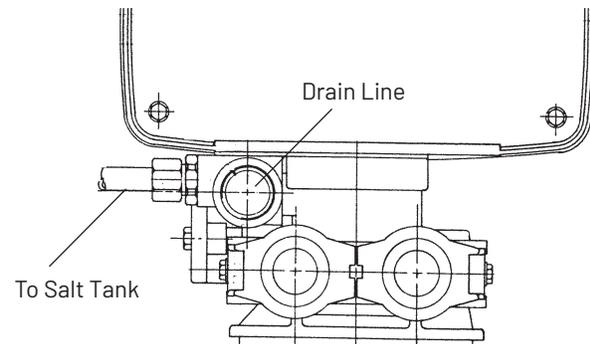

Figure 5.
1. The unit should be above and not more than 20 feet (6.1 m) from the drain. Use an appropriate adapter fitting to connect 1/2-inch (1.3 cm) plastic tubing to the drain line connection of the control valve (Figure 5).
7. Locate the salt line connection on the valve (Figure 5). Push the tubing into the opening until it stops.